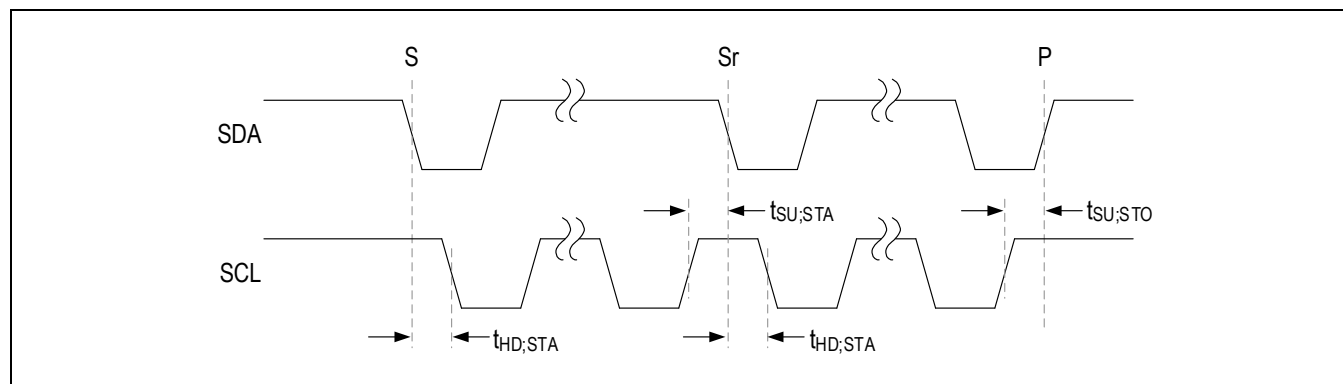

Figure 7. START, STOP, and REPEATED START Conditions
SDA and SCL facilitate communication between the device and the controller at clock rates up to 400kHz. The controller, typically a microcontroller, generates SCL and initiates data transfer on the bus. Figure 7 shows the two-wire interface timing diagram.
A controller device initiates communication by issuing a START condition. A START condition is a high-to-low transition on SDA with SCL high. A STOP condition is a low-to-high transition on SDA while SCL is high (Figure 7). A START (S) condition from the controller signals the beginning of a transmission to the device. The controller terminates transmission and frees the bus by issuing a STOP (P) condition. The bus remains active if a REPEATED START (Sr) condition is generated instead of a STOP condition.